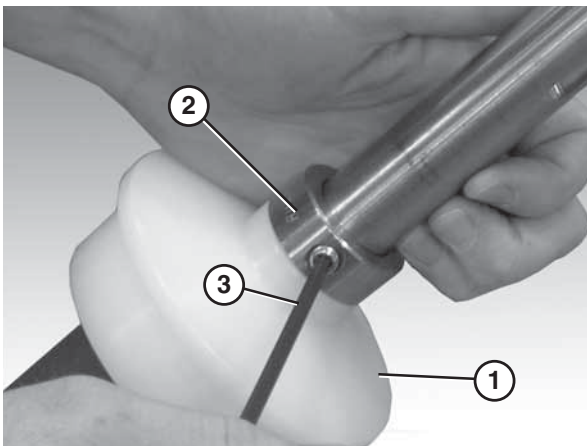

Figure 83
3. Slide the second flanged puck (**Figure 83, item 1**) and the retaining ring (**Figure 83, item 2**) onto the drive spindle.
4. Tighten the retainer ring fastener (**Figure 83, item 3**) using a hex wrench.